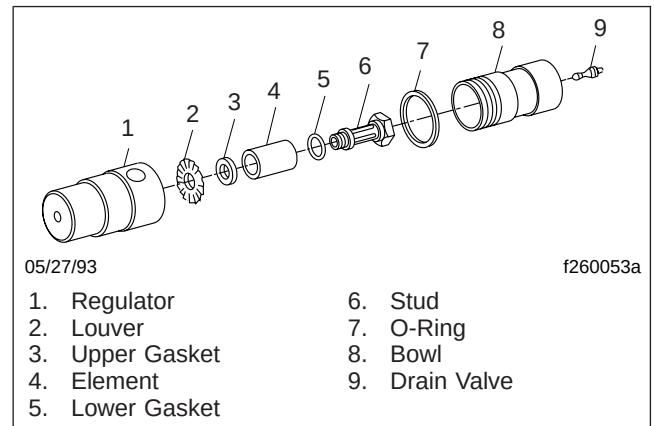

Fig. 11, Spicer Transmission Air Filter/Regulator Components
2. Clean the outside of the air filter/regulator (Fig. 11) with cleaning solvent, then let it air dry.